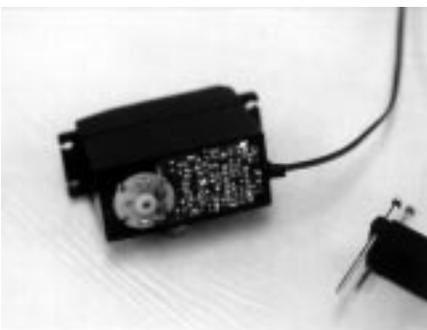

Figure 2. In this photo the motor is to the left and the integrated circuit board is to the right of the case.
2. Remove the bottom (Figure 2).